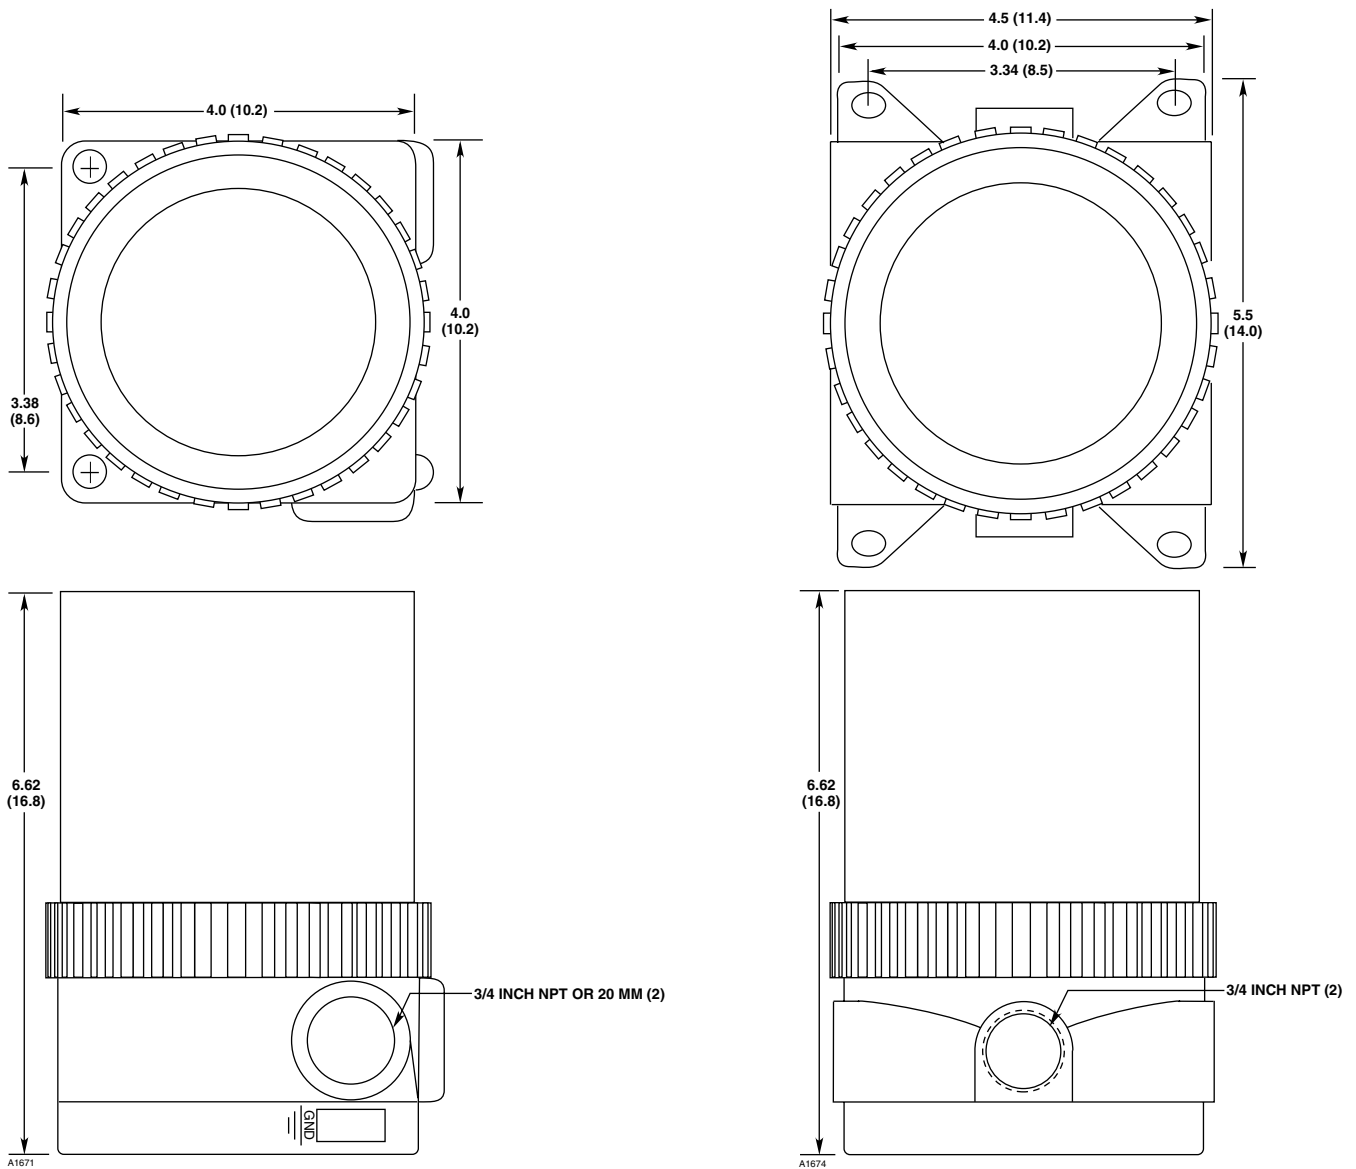

Figure 1—Infiniti Transmitter Dimensions in Inches (Centimeters)
See Figure 1.
- Figure 1 — Infiniti Mounting Dimensions
1. Install the unit in a location that is best suited to cover the area to be protected. Whenever practical, the Infiniti should be placed where it is easily accessible for calibration. For proper operation, sensors should be pointing down, except for PointWatch, which can be mounted down or sideways. See Figure 1 for mounting dimensions.